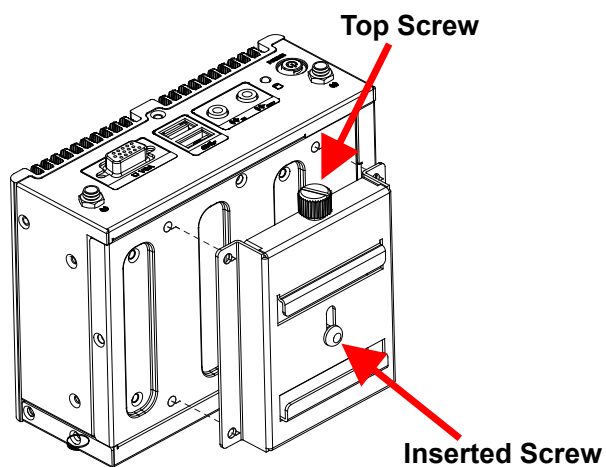

Figure 3-17: Screw Locations
Step 2: Make sure the inserted screw in the center of the bracket is at the lowest position of the elongated hole (**Figure 3-17**).